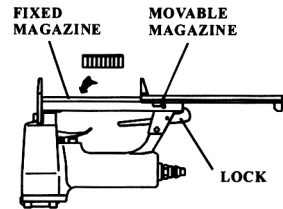

Figure 3
1. Depress the LOCK (43) to release the MOVABLE MAGAZINE (37) and pull the magazine out fully as shown in Figure 3.
2. Place a full clip of the specified type and size fasteners on the FIXED MAGAZINE (33), 100 fasteners may be loaded in the magazine.